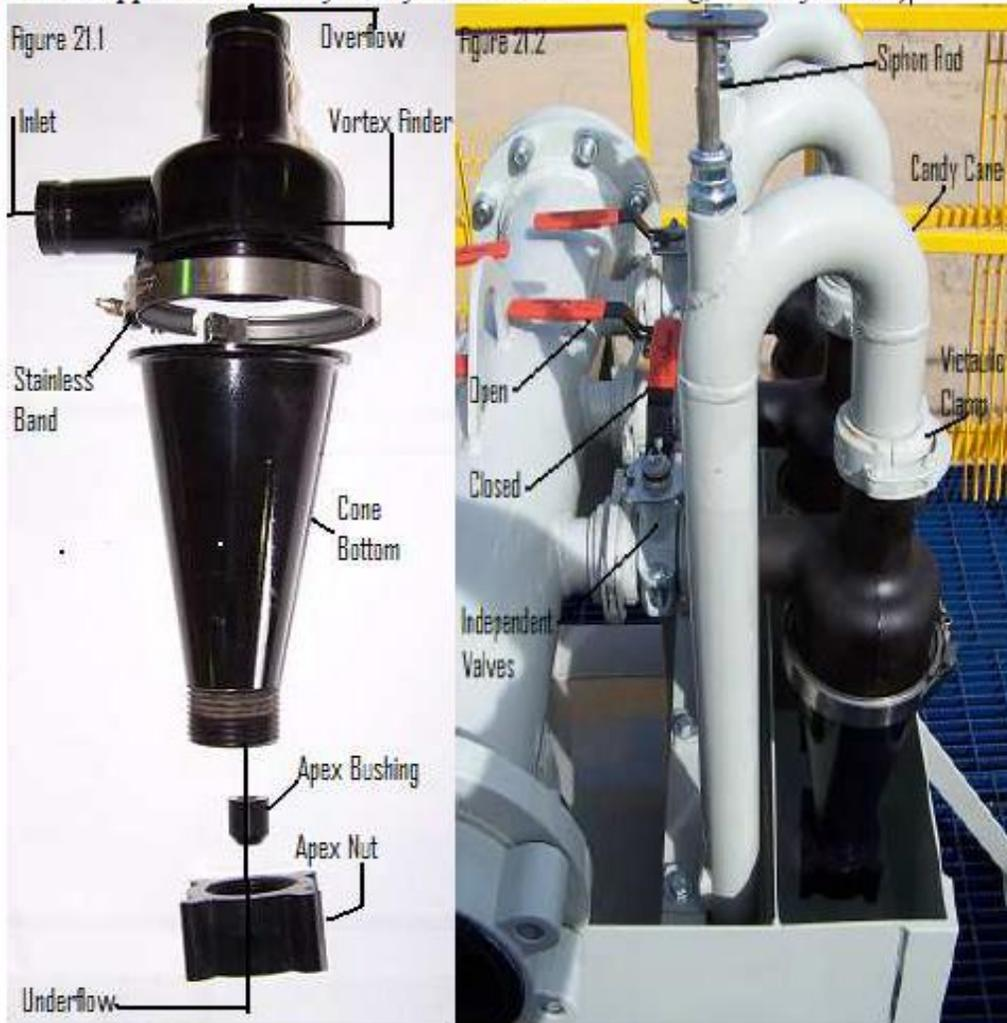

FIG. 21
19. Mud Cleaner 4-4"/126E PTP Shaker: Consists of 4 four inch Hydro-Cyclones attached to a common manifold with individual outlets and valves. The underflow from cone is collected in a trough which is directed onto a 2'x6' drying shaker. The overflow is plumbed into individual tubes collected into a common trough and is deposited into the tank below: Figure 21